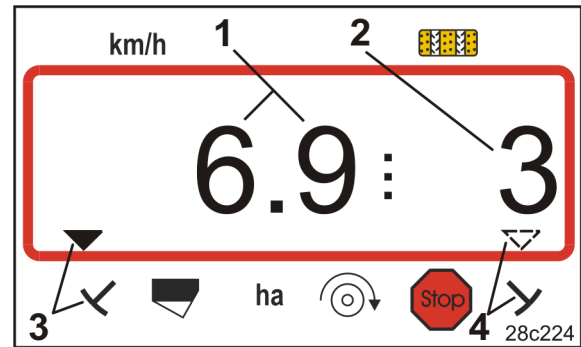

Fig. 26
→ Back to the work display (Fig. 26).
- the travel speed (Fig. 26/1), e.g. 6.9 km/h
- the setting of the tramline counter (Fig. 26/2), e.g. Switching position 3
- the left track marker (Fig. 26/3) is in the working position
- the right track marker (Fig. 26/4) is raised.